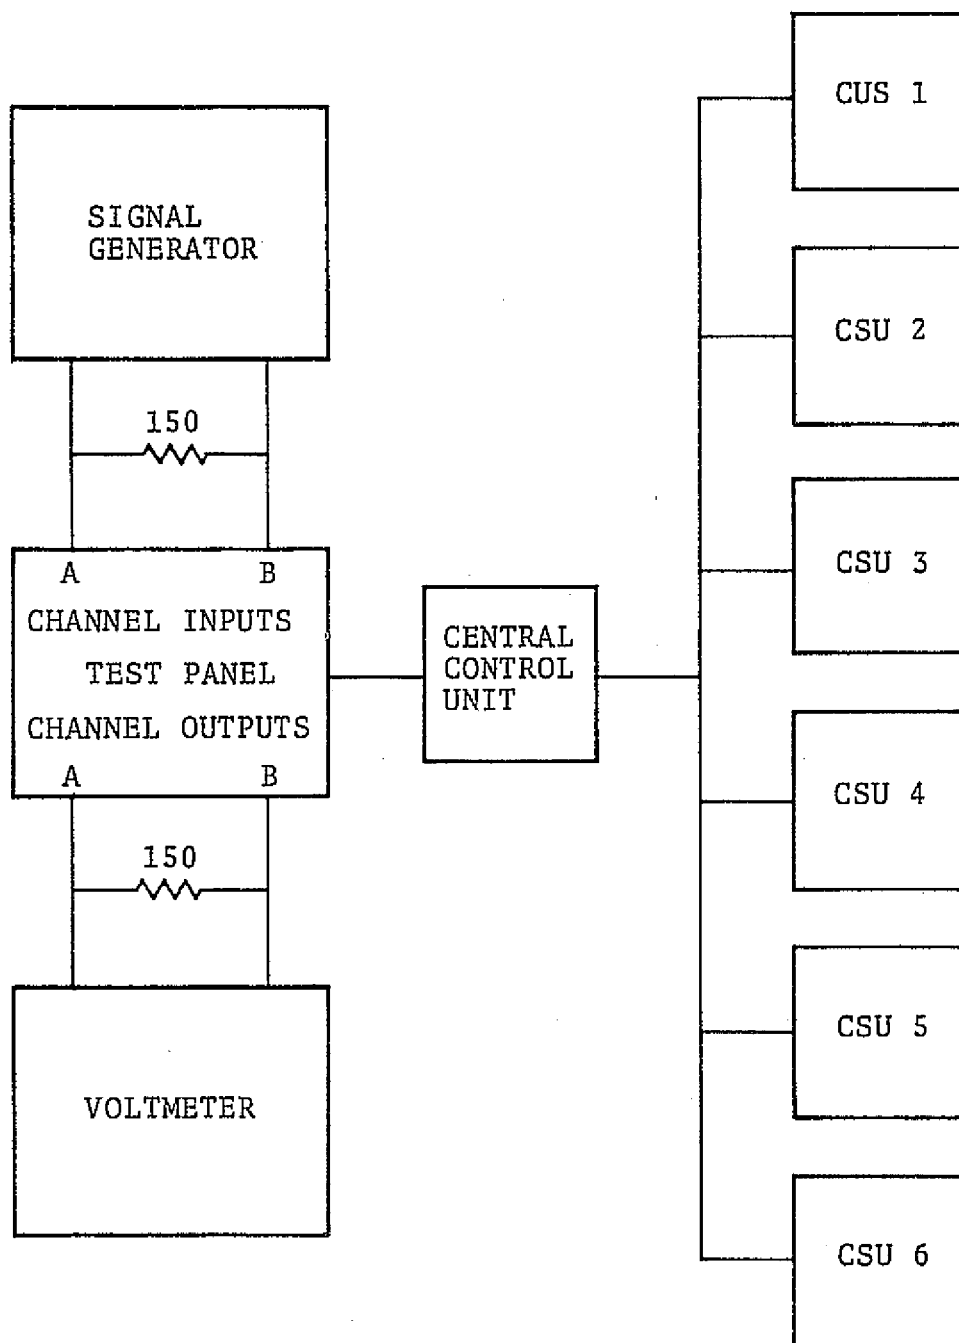

Figure 6-3. — Receive-to-transmit crosstalk test setup.
1. Connect the equipment as shown in figure 6-3.